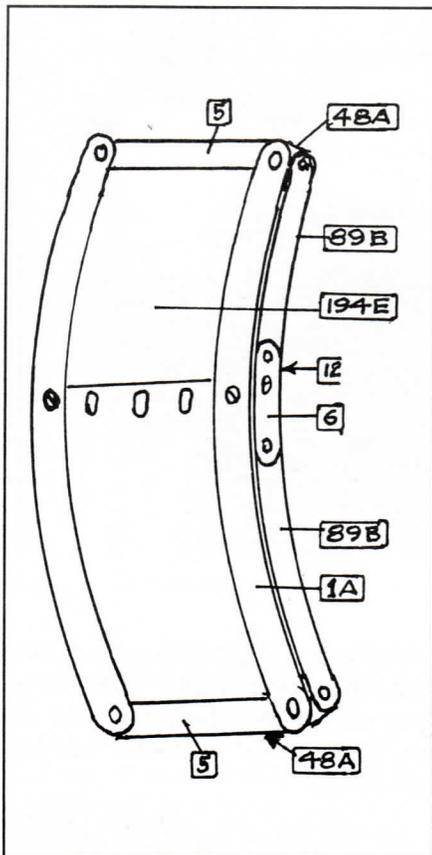

Fig. 6. Fender
**3.6 Fenders (Mudguards)** (Fig.6)
The fenders are shown with Meccano part numbers in Fig.6, and are bolted to the chassis members by the free holes at the inner ends of the Double Angle Strips (48A).